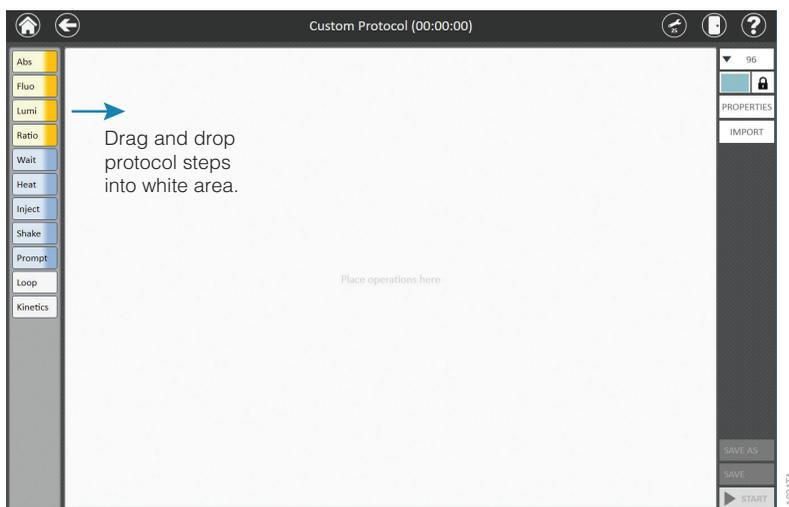

Figure 19. GloMax[®] Explorer 'New Protocol' screen showing drag and drop feature to create custom protocols.
3. Build your protocol by dragging and dropping protocol functions from the left panel onto the **Protocol Window** (Figures 19 and 20). Individual protocol functions are described in the Protocol Functions section below. Use the **Properties** button on the right to modify the name and description of the protocol.